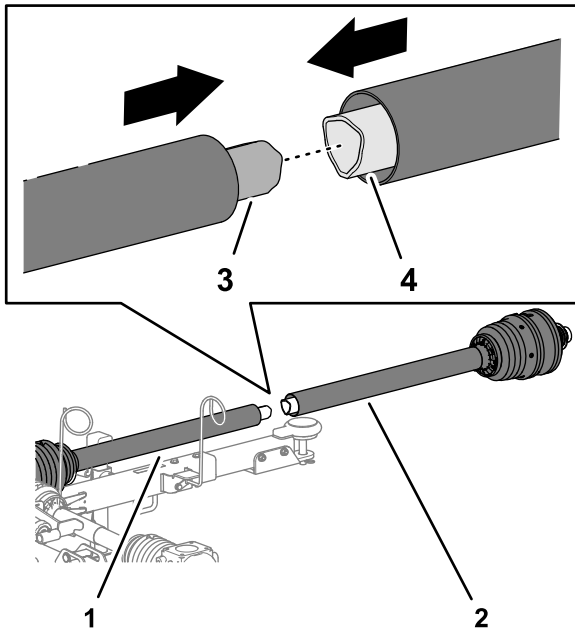

Figure 8
1. Align the inner tube of the rear PTO-drive shaft half with the outer tube of the forward PTO-drive shaft half, and slip the tubes together (Figure 8).